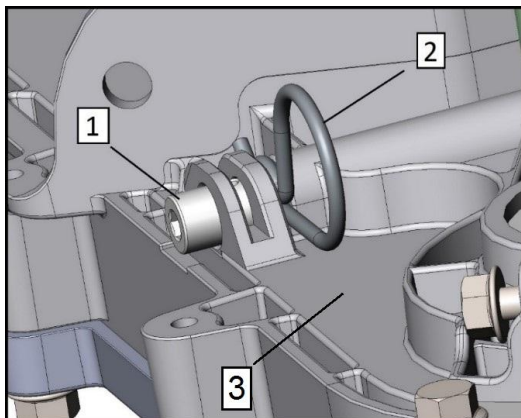
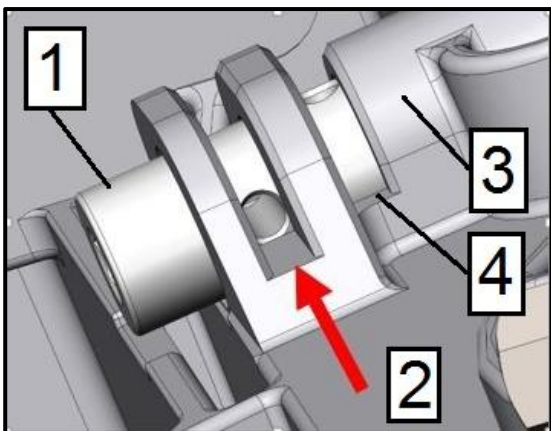

Fig. 42
Fig. 43
1. Lift the rear of the snowmobile so that the caterpillar does not touch the ground. Take out the fixing pin (Pose 2, Figure 42) from the adjusting screw (Pose 1, Figure 42) on the back of the transmission.
3. Make sure that in this position, a hole on the screw, the first or second one is in motion, and the corresponding slot on the housing, the first or second one is in motion. Make sure that the fixed cotter pin (position 2, Fig. 42) is installed in the combined hole and groove (position 2, Fig. 43).